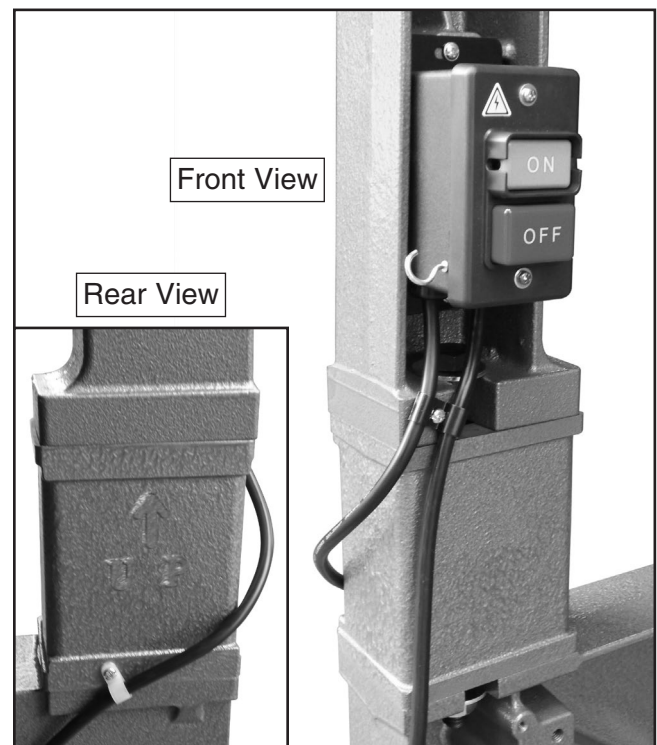

Figure 7. Extension block installed.
19. Attach the cord clamp using (1) 10-24 x 1/2" Phillips head screw (see **Figure 7**), and replace the power switch assembly and double cord clamp removed in **Step 4**.